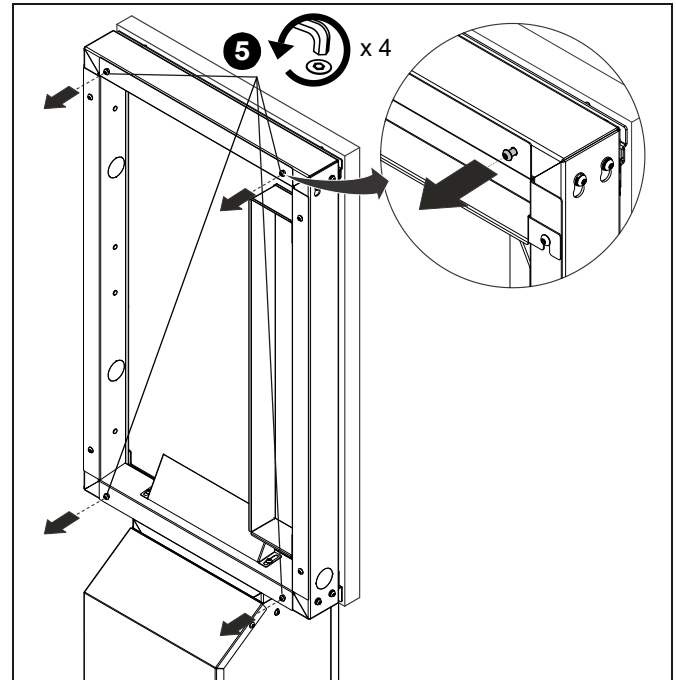

Figure 3
5. Loosen the four M8 x 20mm security screws from the rear of the frame. Leave approximately half of the threads exposed. (See Figure 3)